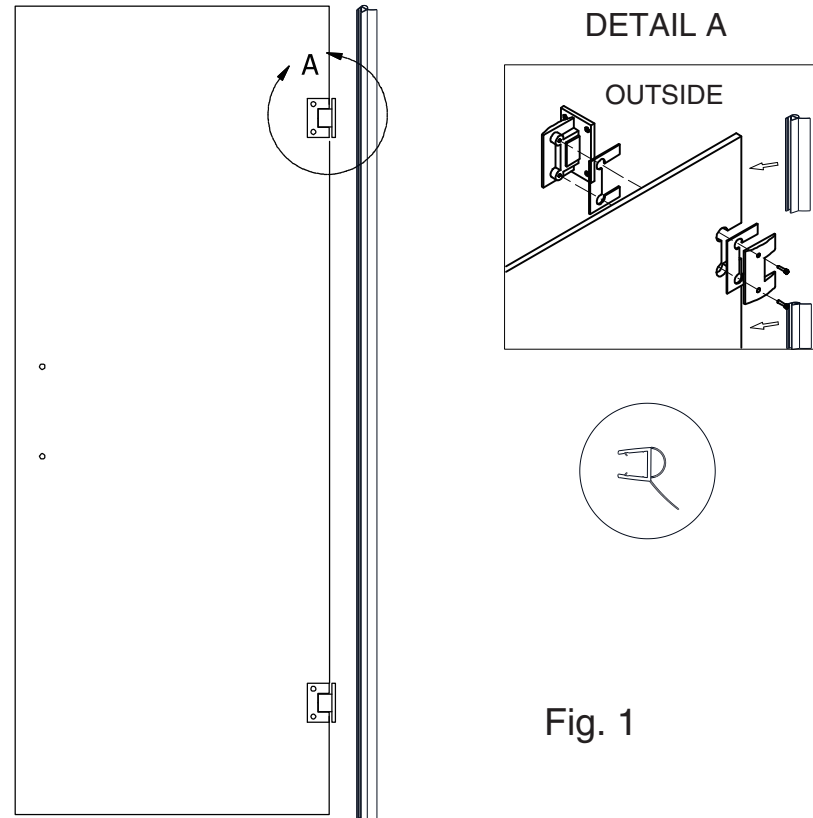

Fig. 1
1. Secure the Hinges (04) to the Glass Panel (01). Refer to Figure 1 for details.